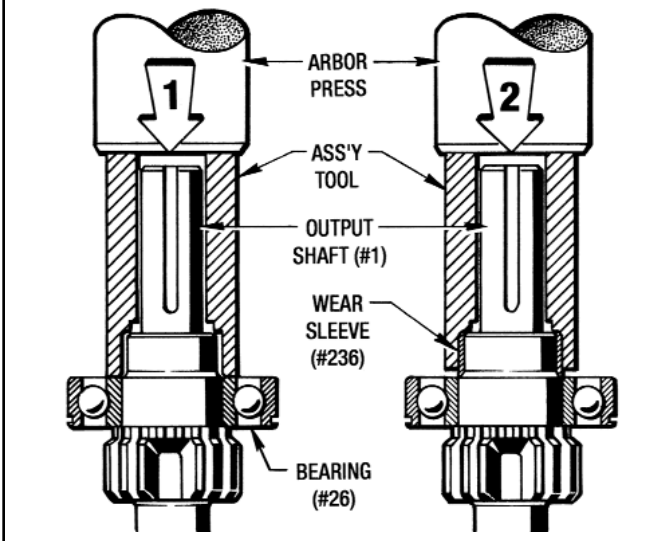

Figure 9.1 - Installing Bearing & Wear Sleeve/Mating Ring
1. With an arbor press and the proper Assembly Tool, press on the Bearing (#26). Install the O-Ring (#80) onto the Output Shaft (#1). Then press the Mating Ring (#4) onto the Output Shaft (#1) as shown in Figure 9.1.
1. With an arbor press and the proper Assembly Tool, press the Bearing (#26) and then the Wear Sleeve (#236) onto the Output Shaft (#1) as shown in Figure 9.1.